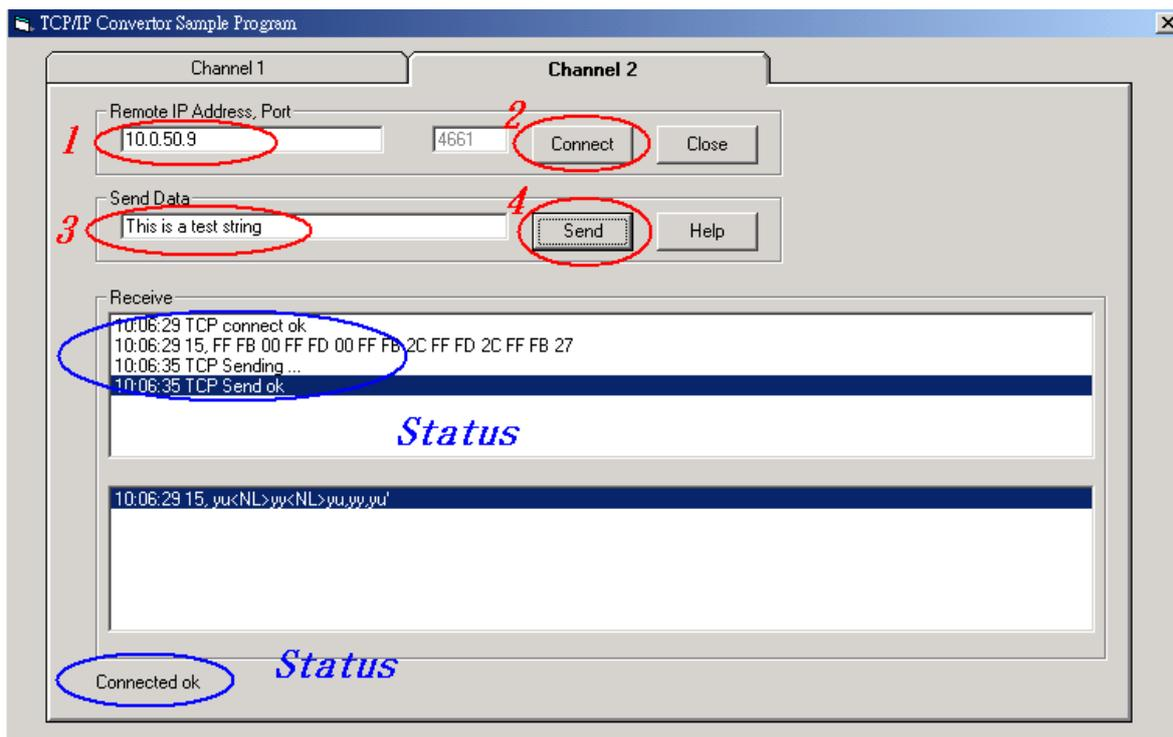

Figure 6.1 TCP test sample program in Visual B
This sample program (Figure 6.1) is written in Visual Basic 5.0 with Winsock Controls. It shows you how to send and receive data between host (PC) and STE-6104C via Ethernet in two socket ports.